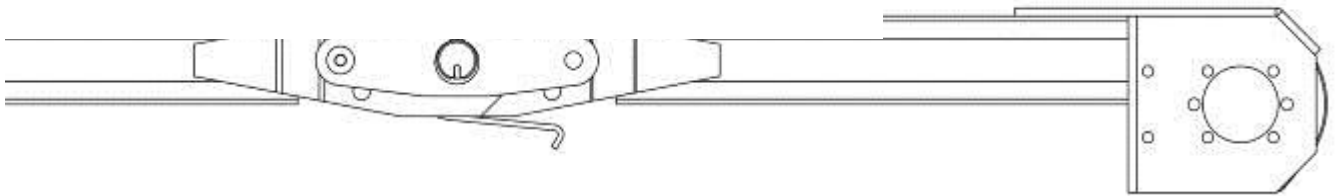

Figure 6
2. Locate front the knuckle arm assembly. Notice that there is a polymer bushing taped to it. Do not lose it. Refer to figure 6 for passenger side stowing tarp system.